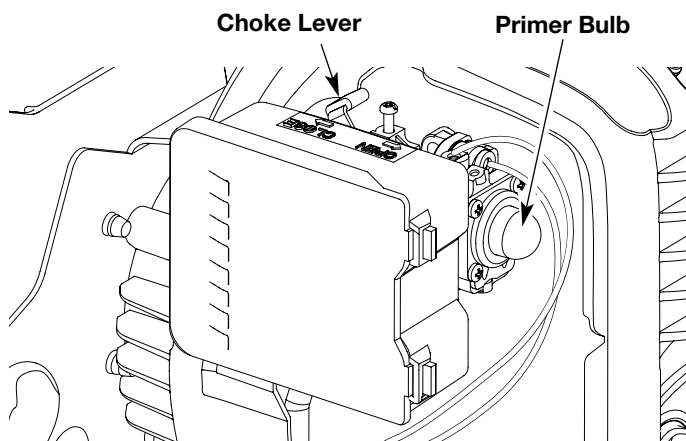

Fig. 9
3. Fully press and release the primer bulb 10 times, slowly. Some amount of **fuel should be visible in the primer bulb and fuel lines** (Fig. 9). If you can't see fuel in the bulb, press and release the bulb as many times as it takes before you can see fuel in it.